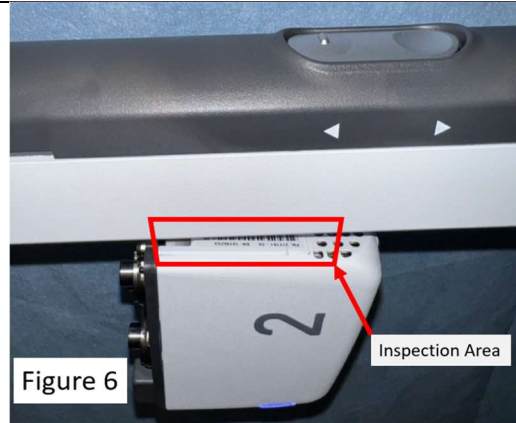

Figure 6
**FAIL:** Able to see serial number and any section of barcode (Figure 6).